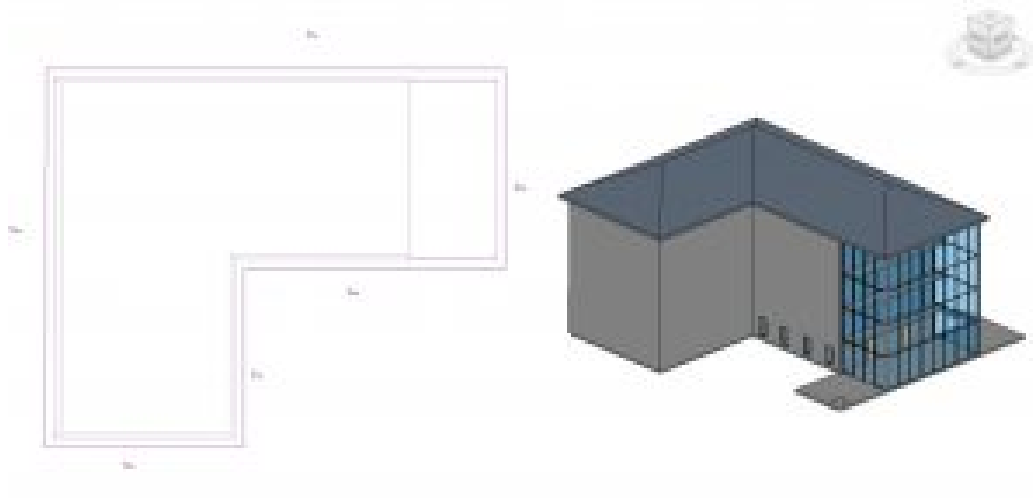

Figure 3.22 Modified roof in plan view and finished roof in 3D view
3. Check the box by Defines Slope for all walls in the Properties Palette as shown in Figure 3.22